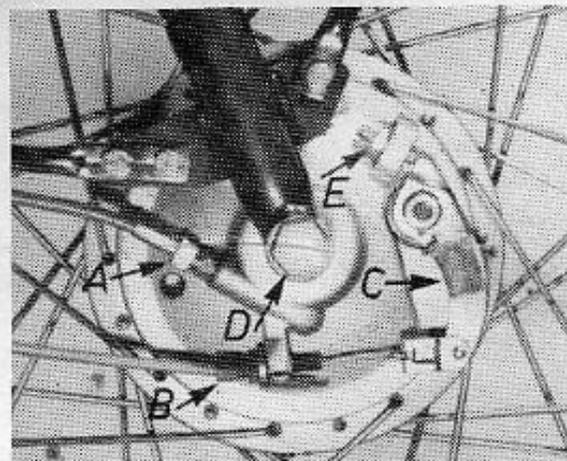

Fig. 14
**FRONT WHEEL** — The front wheel is equipped with a 120 mm light aluminium hub with a steel braking drum (Fig. 14).
To take off the front wheel, it is necessary to disconnect the speedometer cable from the shaft, the brake cable, and wheel shaft «D» (Fig. 14).